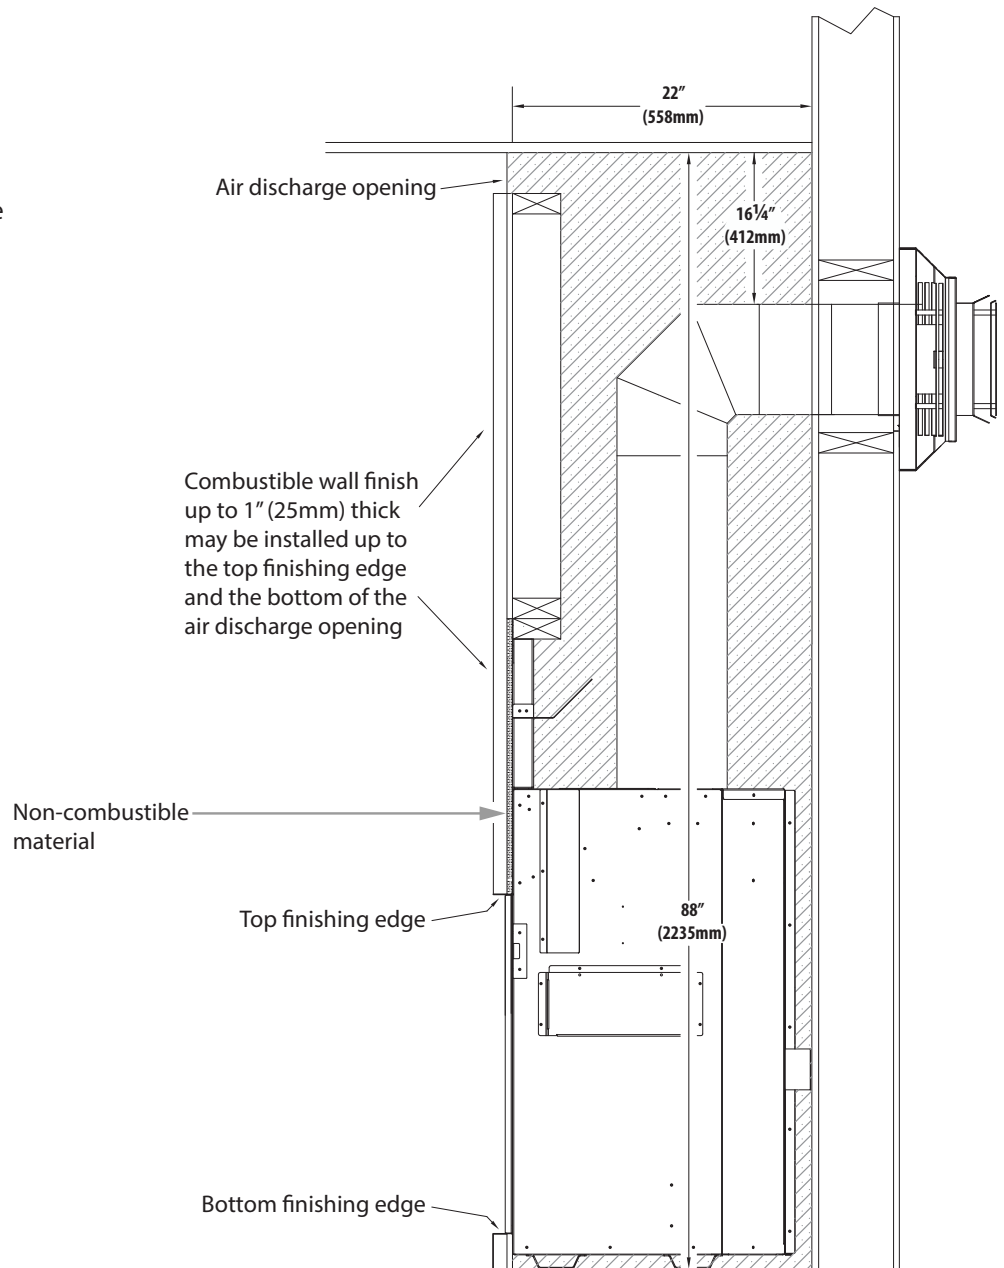

Figure 4.9, Combustible Wall Finish up to 1" (25mm) thick
- Figure 4.9 on page 39 shows installation of combustible wall finish up to 1" (25mm) thick for Komfort Zone Kit(s) and Vented Cavity installations. For KZK-1510A and KZK-045 installations, reference the manuals included with the kit.
- This combustible material goes on any required non-combustible materials as shown in Figure 4.9 on page 39.